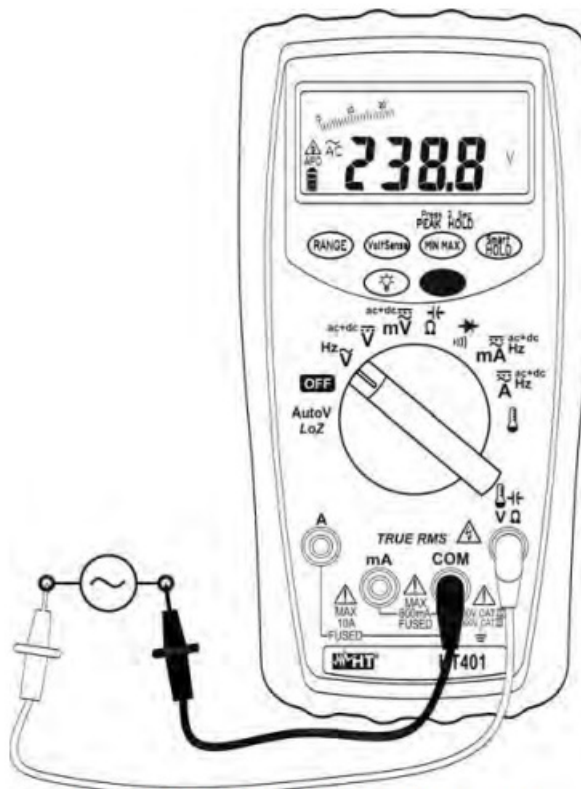

Fig. 3: AC voltage measurement
4. Insert the red cable into input lead $\text{V}\Omega$ and the black cable into input lead COM (see Fig. 3)